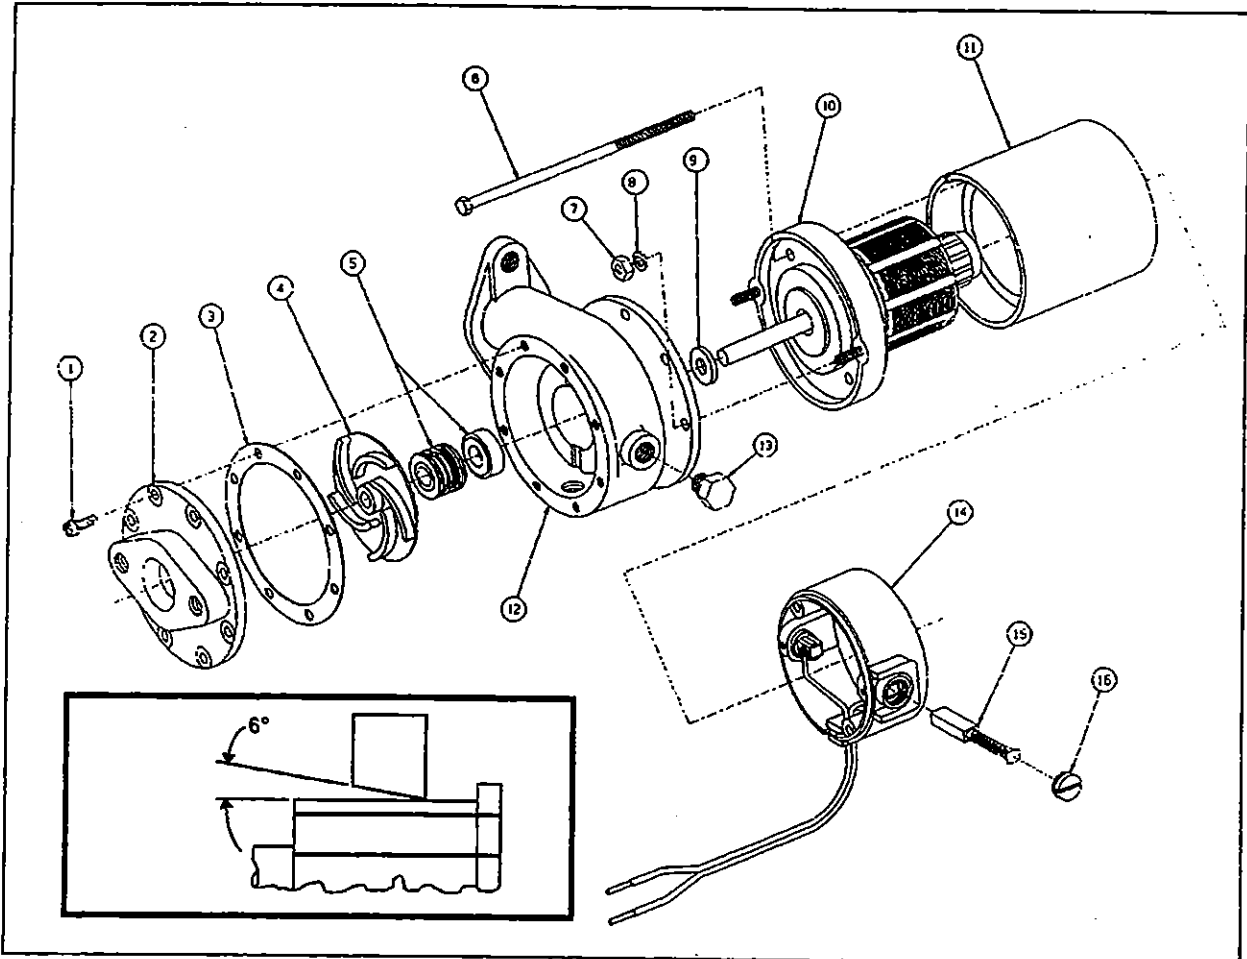

Figure 37: Water Recirculating Pump
### 12.3.3 Disassembly (Refer to Fig. 37, Water Recirculating Pump and Motor)
1. Remove two brush caps (16, Fig. 37) and two brush assemblies (15, Fig. 37). When removing brushes, note the position of the brush in the tube. Brush life is significantly decreased if brushes are not replaced properly.
2. Remove the pump cover (2, Fig. 37) by removing eight head screws. Remove cover carefully to prevent damage to gasket (3, Fig. 37).
3. Remove gasket (3, Fig. 37).
- a. Install puller tool assembly (MP Co. Part No. 24702 or equivalent) to pump body (12) using four screws removed from the pump cover (2).
7. Remove impeller (4) and components of the pump seal assembly (5).
### 12.3.5 Bearings (Fig. 37)
### 12.3.7 Miscellaneous (Fig. 37)
### 12.3.8 Assembly (Fig. 37)